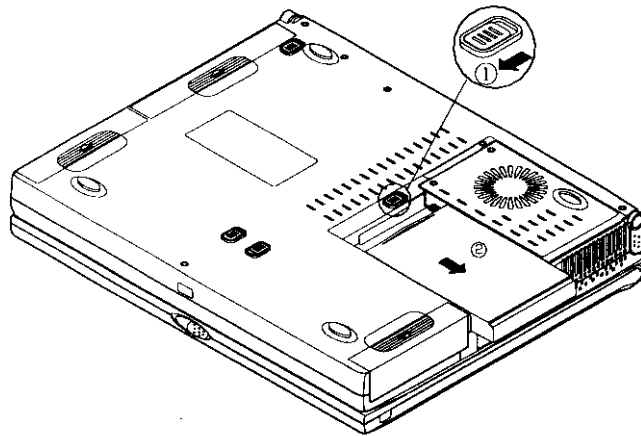

Figure 2-12
3. Locate the Hard Disk drive latch (Figure 2-12).